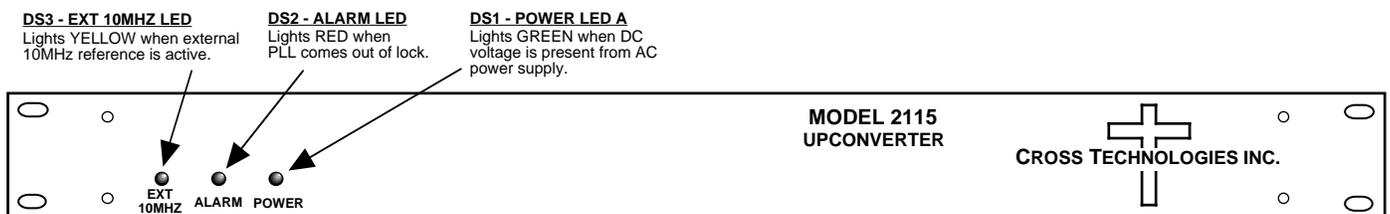

FIGURE 2.2 2115-143 Front Panel Controls and Indicators
4. Be sure DS1 (Green, DC Power) is on and DS2 (Red, Alarm) is off (Figure 2.2).
6. If EXT is selected or AUTO is selected and there is a 10MHz, 3 dBm signal at J2, check that DS3 (Yellow, Ext 10MHZ) is on (Figure 2.2).